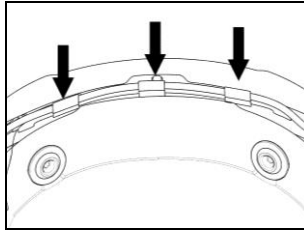

Fig. 19
- Position the wiring and the antenna in the rear part of the helmet (Fig. 19).